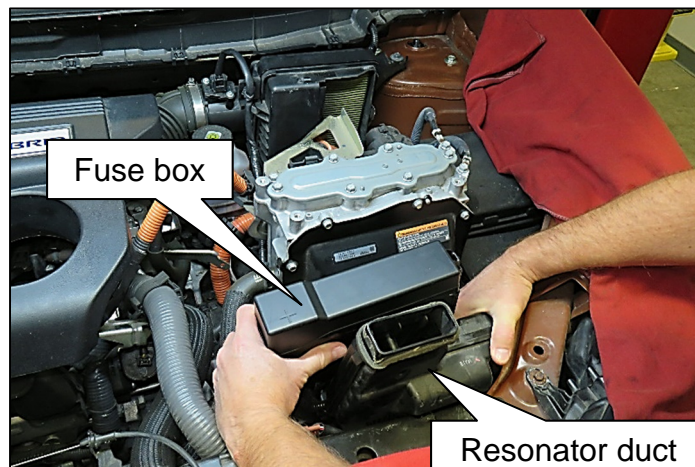

Figure 18
- Lift and move the fuse box toward the rear of the vehicle to install the resonator duct, as shown in Figure 18.